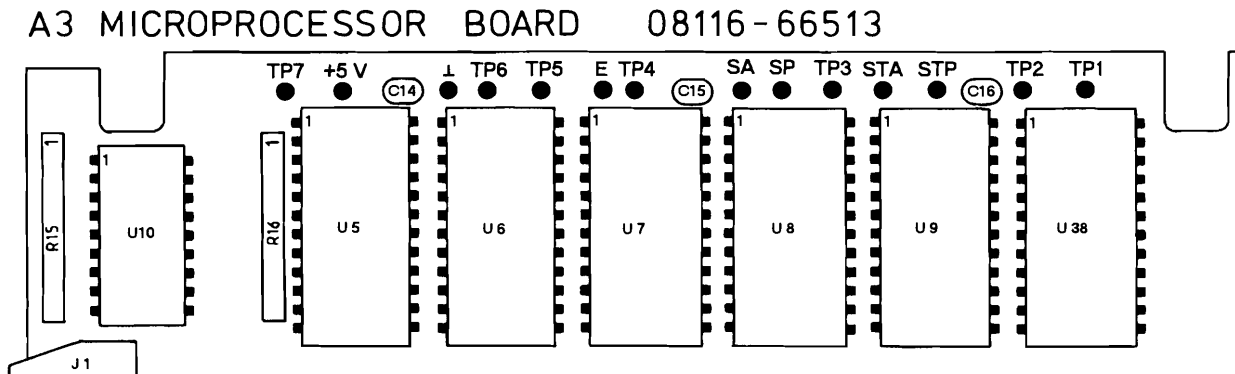

Figure B-11. 08116-66513: ROM layout
2. Figure B-11 shows the location of the ROMs on microprocessor board 66513, modify Figure 10.7-9 accordingly.